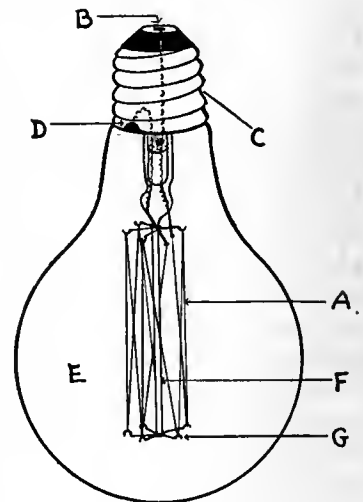

FIG. 412
8. The part of the electric bulb shown at A in Figure 412 is called the _____ and is made of _____.